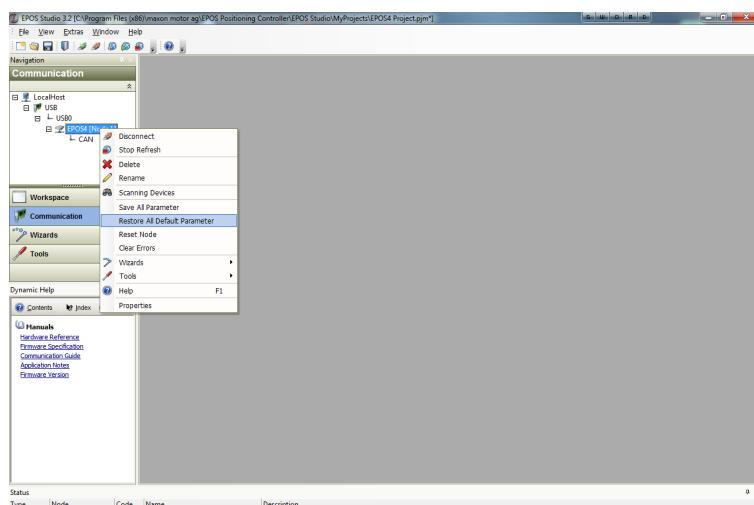

Figure 7-65 Adjustment of SSI commutation offset value | Restore all default parameters
- 6) If you are not quite sure what parameters are set, execute the command «Restore all default parameters» (→Figure 7-65) before continuing.